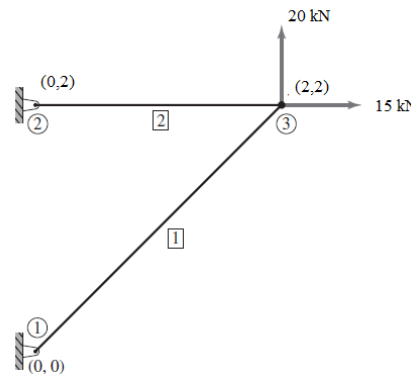

Fig. 2
7. A two-member truss is loaded as shown in Fig.2. The area of cross section of each element is 500 mm2 and E = 200 GPa. Compute the displacement components at node 3, reactions at supports and member stresses